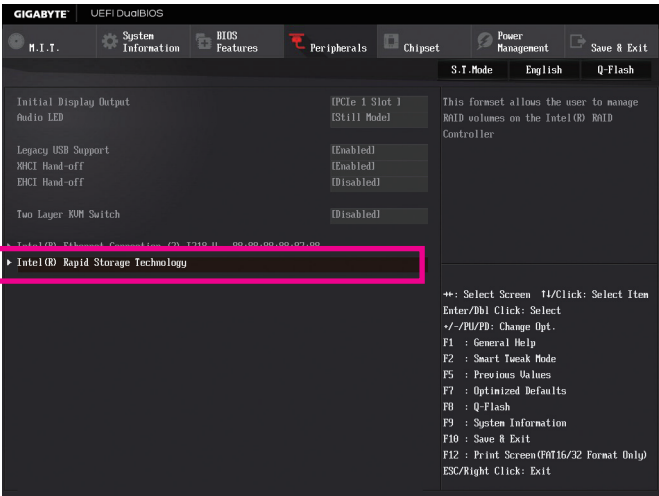

Figure 3
- After the system reboot, enter BIOS Setup again. Then enter the **Peripherals**/**Intel(R) Rapid Storage Technology** sub-menu (Figure 3).